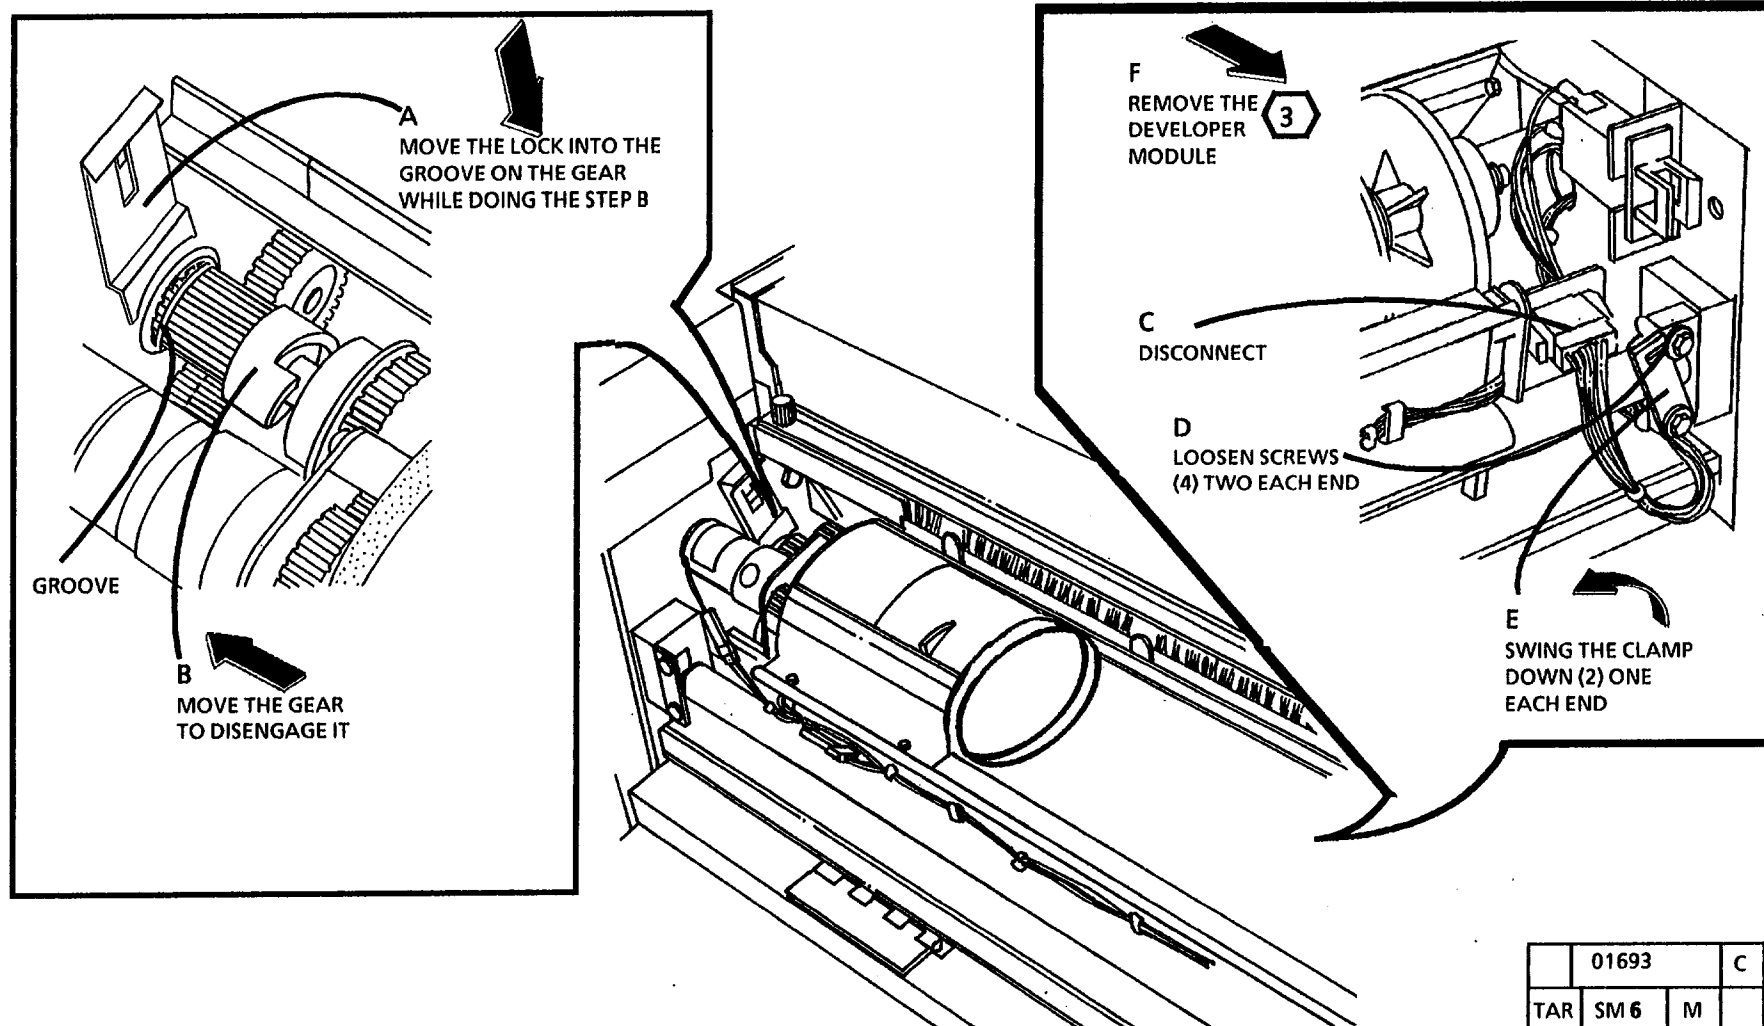

Figure 7. Remove the Developer Module
5. (Figure 7): Remove the Developer Module.